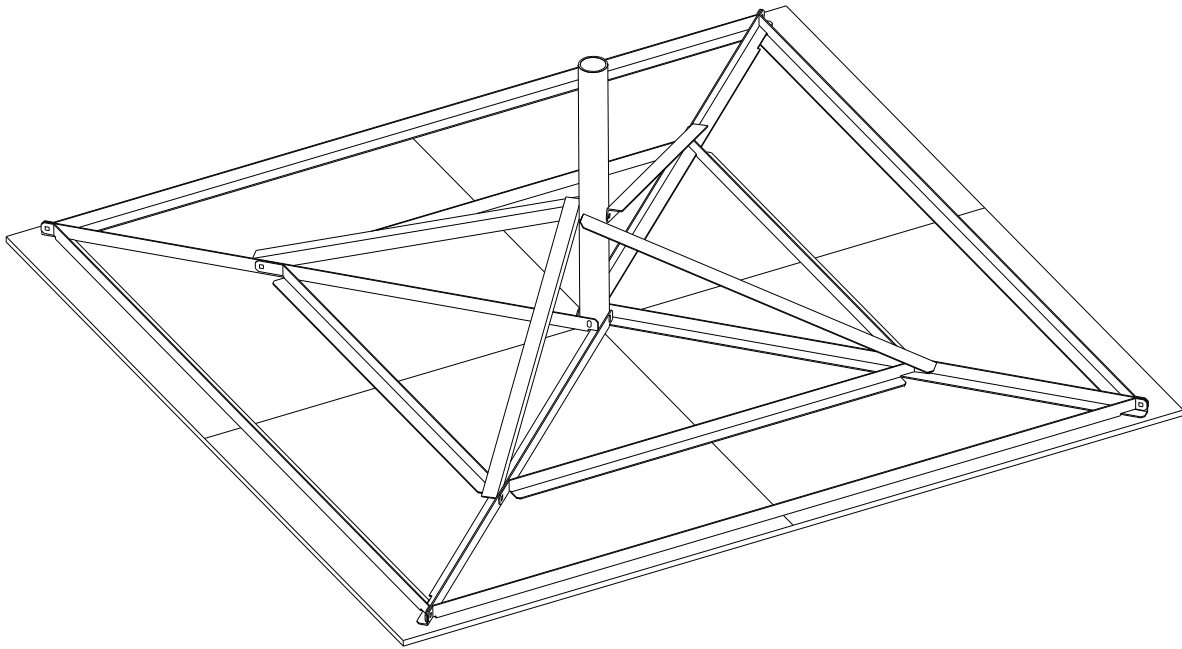

Figure 1
A). Attach the (4) mast brace angles (item 5) to the mast pipe with 3 / 8" hardware (items 7, 9, 10 & 11). Each brace must attach to the side of the mast pipe opposite its corresponding diagonal brace. Refer figures 1 and 2. Snug only.
A). Position the (4) inner brace angles (item 3) as shown. Use Step 8 below for reference to the angle orientation.
A). Attach the inner brace angle (item 3) to the mast brace angle and diagonal base angle with 3 / 8" hardware (items 8, 9, 10 & 11). Note the orientation of the angles.